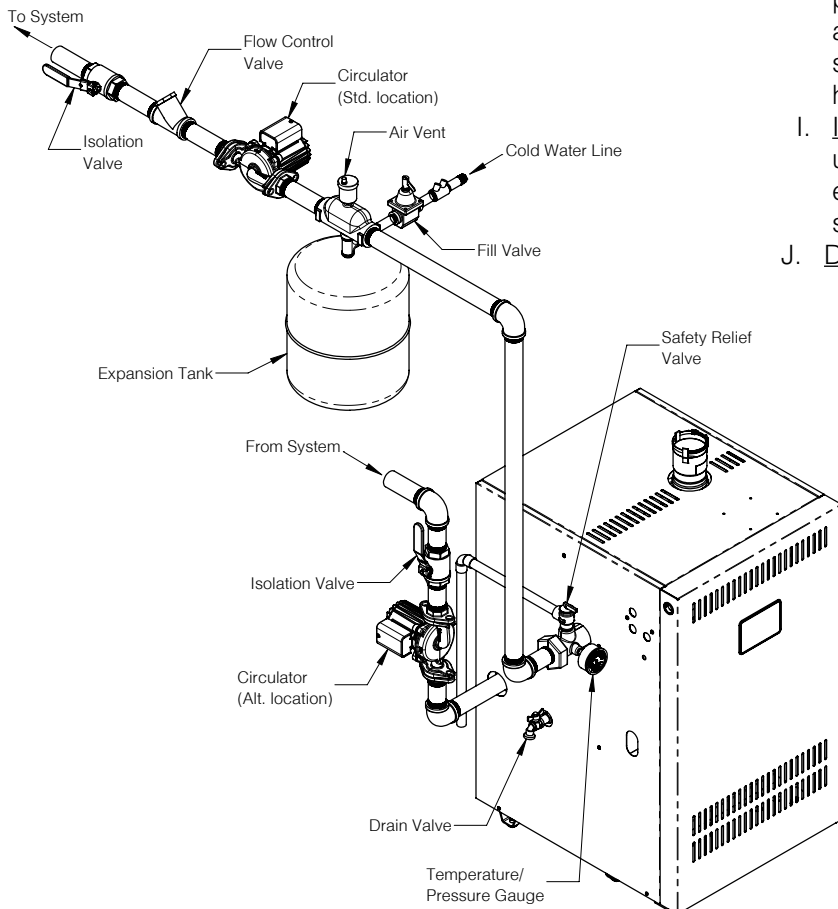

Figure 8-2: Standard Boiler Piping
Figure 8-2 shows typical boiler system connections on a single zone system. Additional information on hydronic system design may be found in the I=B=R Guide RHH published by the Air-Conditioning, Heating and Refrigeration Institute (AHRI). The components in this system and their purposes are as follows:
- B. Circulator (Required) - The circulator is shipped loose with the boiler. If the circulator is mounted in the supply it should be positioned just downstream of the expansion tank as shown in Figure 8-2.